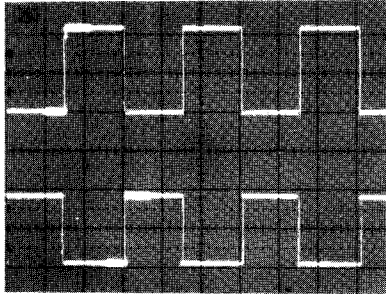

Figure 10. Adjustment of Start and Stop
8. Adjust TIME INTERVAL START to position the first intensified marker at the beginning of the desired time interval (one channel). See figure 10.